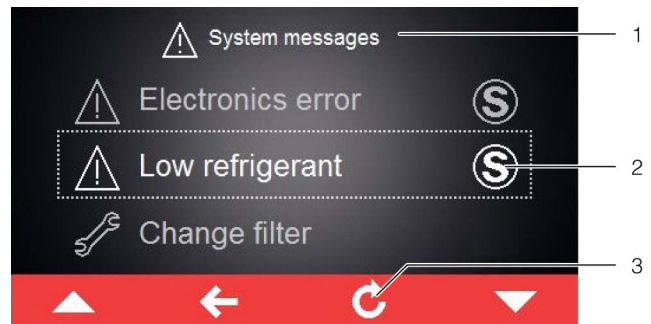

Fig. 30: Screen showing error messages
If an error message applies that cannot be resolved by the operator himself and which is not reset automatically, the "Service" symbol will appear after the error message and in the control bar next to the symbol for system messages (fig. 30, item 2).